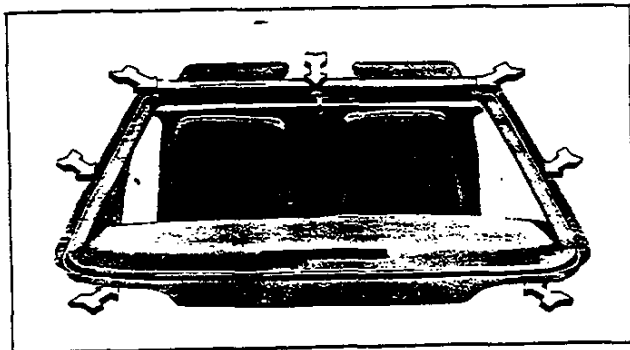

Fig. 13—Windshield Rubber Spacers
13. Using weatherstrip adhesive, cement rubber spacers at bottom, sides, and top of window opening. The step-type spacers are used at bottom, the flat type are used at the top, and at the sides, window opening as shown in Figure 13.